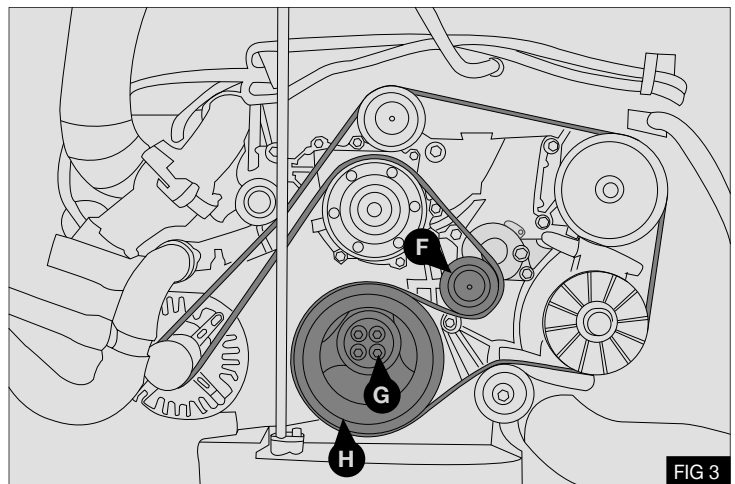

FIG 3
3. Using a suitable tool rotate the automatic belt tensioner pulley (F) clockwise and insert a 4mm pin to lock the tensioner open. Remove and retain the original drive belt, note the direction of rotation and the routing of the original belt - Fig 3
4. Remove and discard the original crankshaft pulley securing bolts (G). Remove the original crank pulley (H) from the vehicle - Fig 3
**NB:** Crankshaft locking tool (23) is required for this operation. It is not included in the kit.